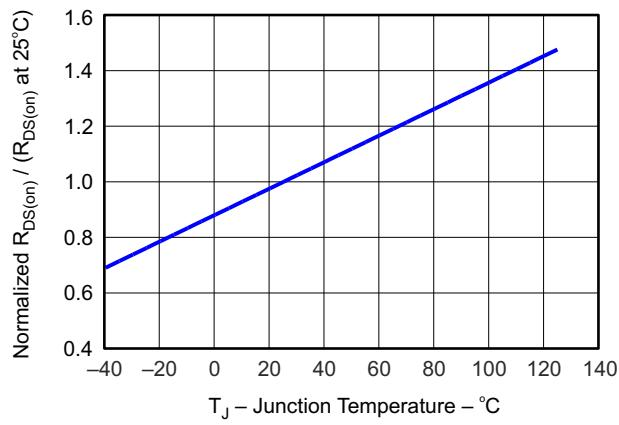

图 5-3. Normalized Rds(On) vs Junction Temperature
(1) Stresses beyond those listed under *Absolute Maximum Ratings* may cause permanent damage to the device. These are stress ratings only, which do not imply functional operation of the device at these or any other conditions beyond those indicated under Fig 5.3. Exposure to absolute-maximum-rated conditions for extended periods may affect device reliability.
(2) These are the maximum allowed voltages for transient spikes. Absolute maximum DC voltages are lower.